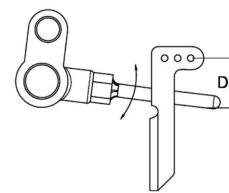

图26 (Fig.26)
棉线, SP 线: 7-10mm(D)(图 26)。
伸缩尼龙线: 10-15(D)(D)(图 26)
Cotton \$ sp thread:7-10mm (D) (Fig.26)
Nylon thread :10-15mm(Fig.26)